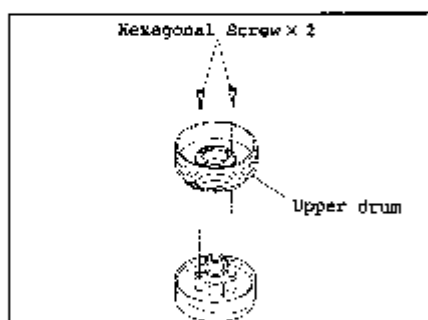

Fig. III-12
10. Upper Drum (Fig. III-12, 13, 13.5 and 14)